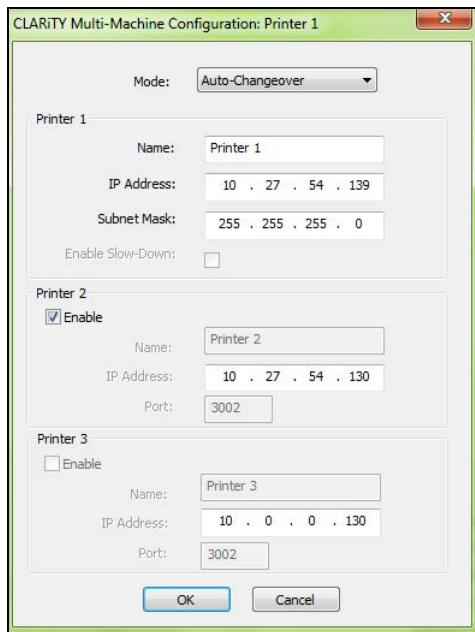

Figure 8-18: Auto-Changeover Mode
- 3 Select auto-changeover mode from the drop down list (see Figure 8-18)